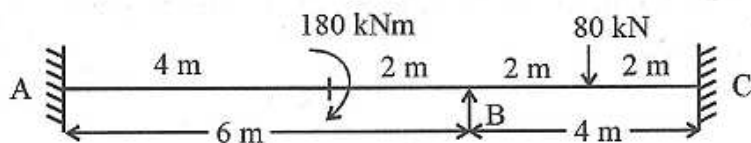

Fig. 3
4. Analyse the beam ABC shown in Fig. 3 by Moment Distribution Method. Draw B.M.D. and S.F.D. also. (15)